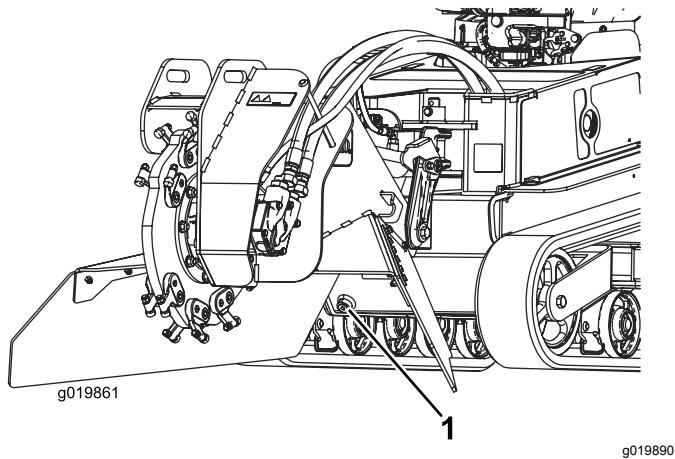

Figure 62
7. Remove the hydraulic tank drain plug and allow the fluid to drain into the pan (Figure 62).